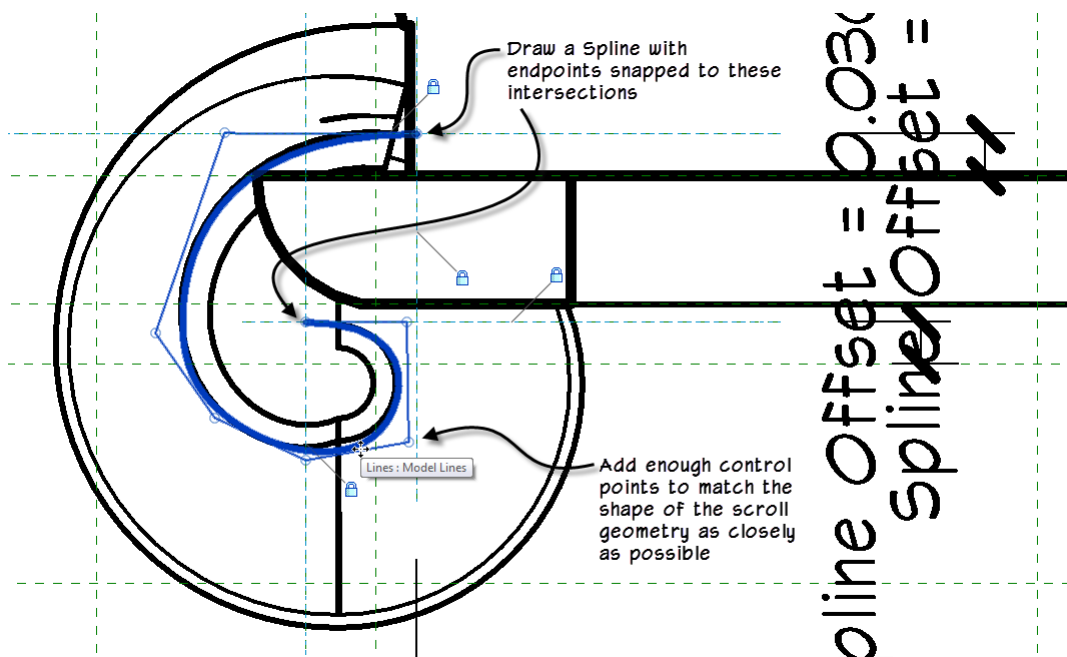

FIGURE 28—MATCH THE SHAPE AT THE END OF THE SCROLL FORMS WITH A SPLINE MODEL LINE
- ⇒ Add as many control points as needed to closely match the curved shape of the scroll forms (see Figure 28).